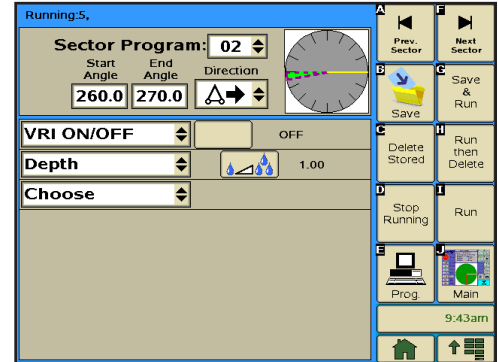

Figure 105-1
7. Program the start and end angles, and direction for this sector. Refer to Figure 105-1.
8. Enter the command for this sector. Refer to Figure 105-1.